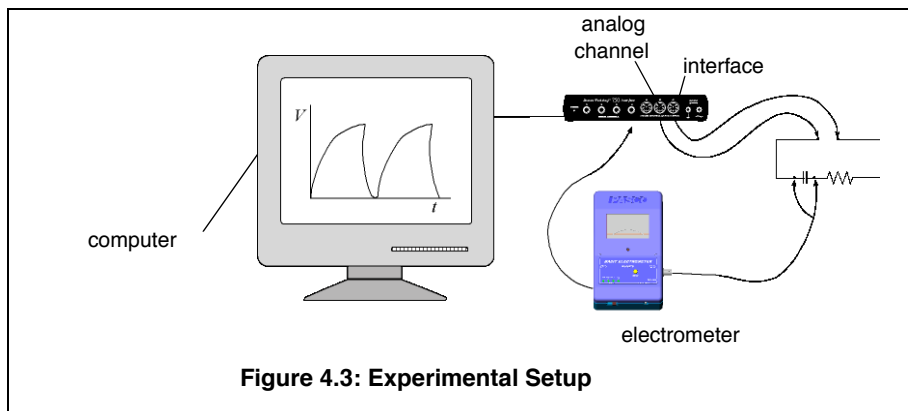

Figure 4.3: Experimental Setup
1. Set up the circuit shown in Figure 4.3, where the resistor and the capacitor are connected in series to the signal output generator of the *ScienceWorkshop* interface. Use a $200\mu\text{F}$ capacitor and a resistance of $1000\ \Omega$. The electrometer is reading the voltage across the capacitor, and it is also connected to one of the analog channels of the Science Workshop interface.